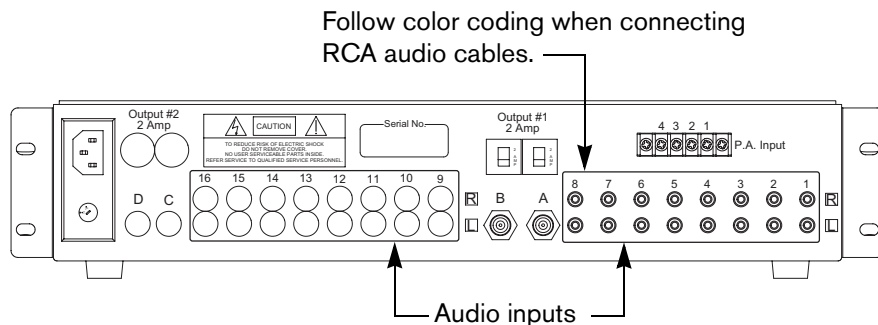

Figure 5: Connect RCA cables to audio inputs on the back of distribution unit
3. Connect the other end of the RCA audio cable to the audio inputs on the distribution unit. Observe and follow the color coding of the RCA audio cable connectors. The Model 800 Distribution Unit has 8 audio inputs and the Model 1600 Distribution Unit has 16 audio inputs. See Figure 5.